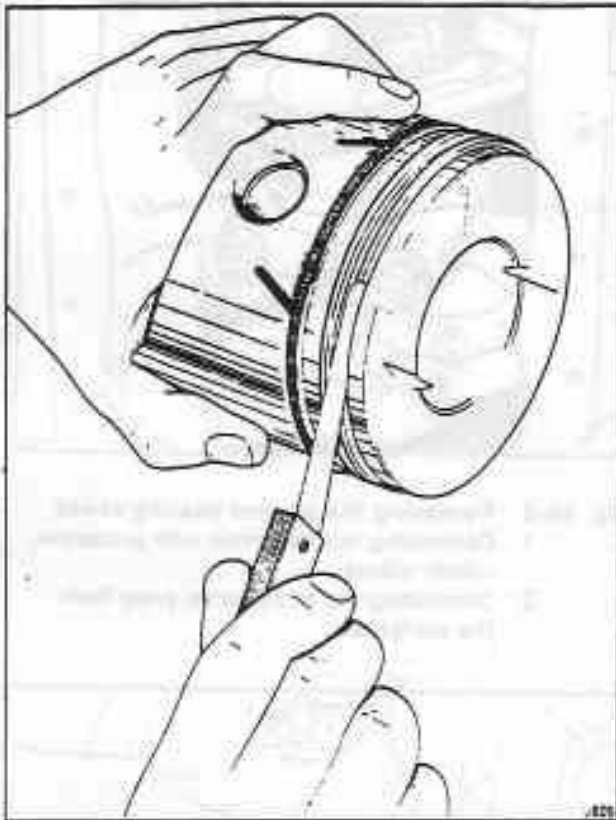

Fig. E6-7 Checking the piston ring clearance
4. Check that the clearance of the piston rings in their respective grooves is as given in Section E3, Dimensional data (see fig. E6-7).